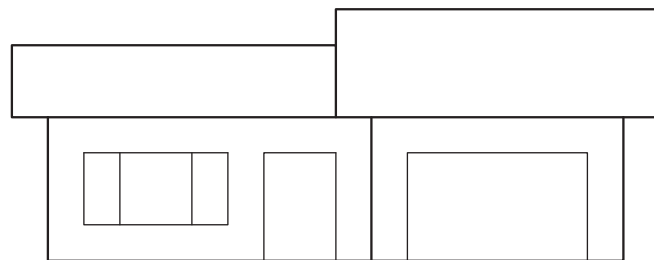

Fig. 11-10
7. Draw the simple house elevation shown in Fig. 11-10 at any size with ortho or object snap tracking and polar tracking. Prior to drawing the roof, use **UNDO** to mark the current location in the drawing. Then draw the roof.